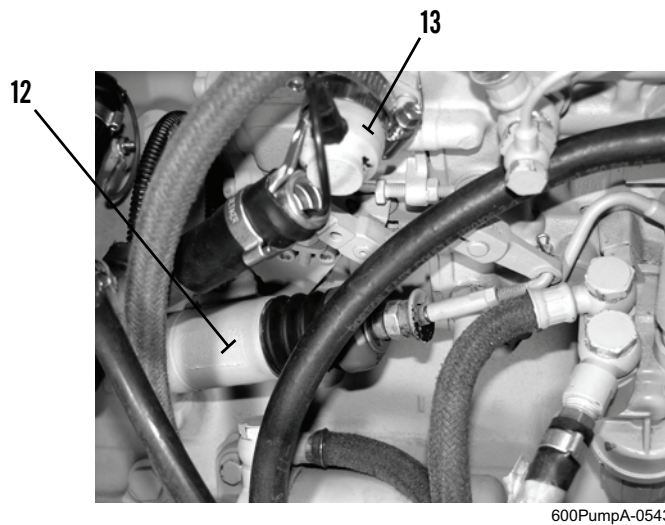

Figure 9. Fuel Injection Pump.
4. Connect engine/control panel wiring harness to fuel injection pump solenoid (Figure 9, Item 12).
5. Connect engine/control panel wiring harness to fuel injection pump electromagnet (Figure 9, Item 13).